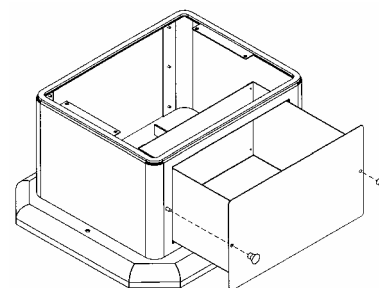

FIGURE 24
- f. Periodically remove and empty ash bin (see Figure 24) by unscrewing the two knobs on the front of the pedestal below the ash lip. Dispose of ashes properly. (See "**ASH REMOVAL**" above)